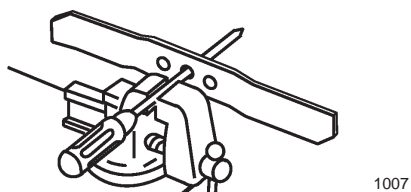

Figure 25
1. Check the balance of the blade by placing the center hole of the blade over a nail or screwdriver shank clamped horizontally in a vise (Fig. 25).